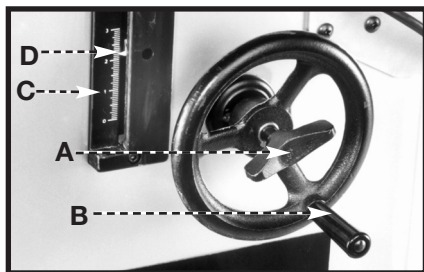

Fig. 26
The spindle can be raised or lowered by loosening the lock knob (A) Fig. 26 and turning the handwheel (B). To raise the spindle height, turn the handwheel (B) clockwise. To lower the spindle height, turn the handle (B) counterclockwise.
The scale (C) Fig. 26 indicates the spindle travel range from 0" to 3" and is marked in 1/16" increments. Minor cutter height adjustments can be measured using the pointer (D) along the scale (C).